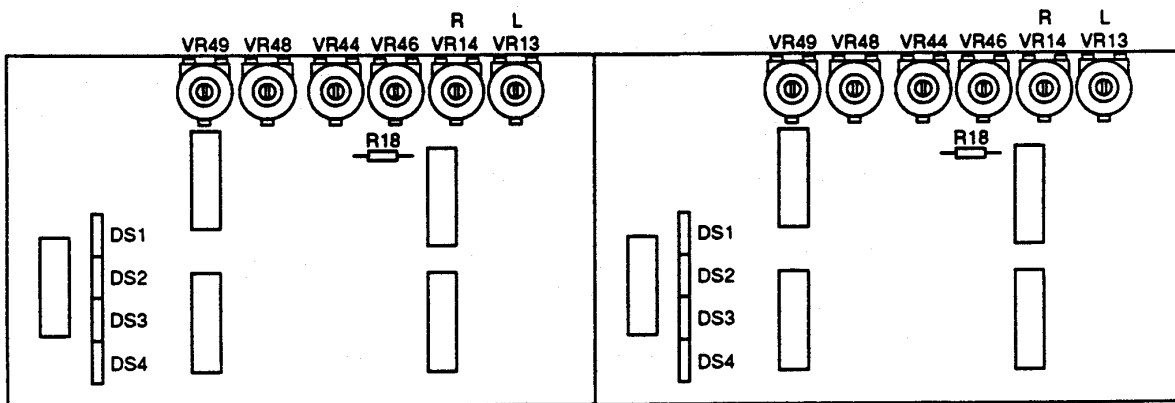

Fig. 26. Simplified component view of Model 12-B signal boards.
3. Adjust the Left input gain control VR-13 so that DS-1 is off and DS-2, -3, -4 are on. Refer to Fig. 26 for DS1-4 locations on meter signal board.